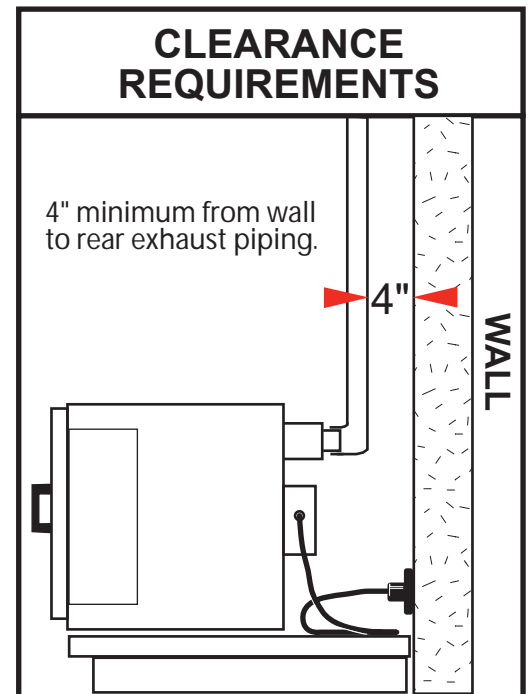

FIG. 7
■ A minimum of 4 inches of clearance should be maintained between the connected pipe and any building surface or material. (FIG. 7)